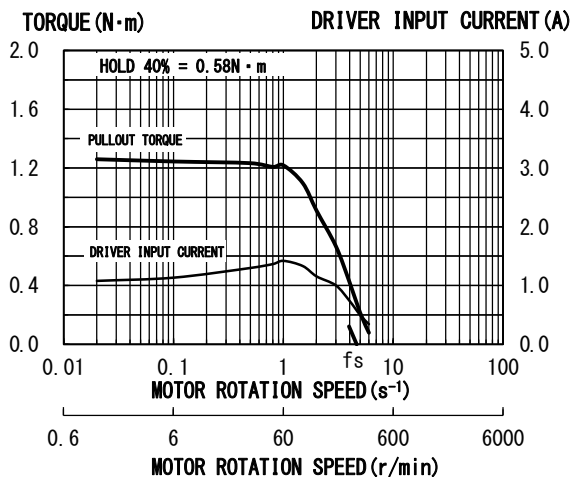

Fig. 4
|         | SM2561C10U41 (11)    | 1.8        | 1.0         | 7                      | Fig. 4       |